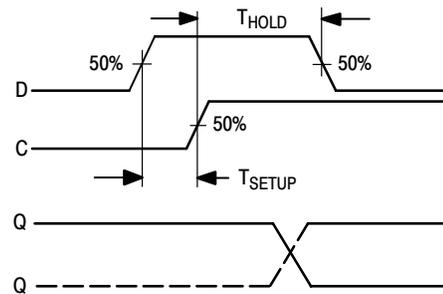

Figure 14. Setup and Hold Waveforms for MECL Logic Devices
Setup and hold times are two AC parameters which can easily be confused unless clearly defined. For MECL logic devices, t_{setup} is the minimum time (50% – 50%) before the positive transition of the clock pulse (C) that information must be present at the Data input (D) to insure proper operation of the device. The t_{hold} is defined similarly as the minimum time after the positive transition of the clock pulse (C) that the information must remain unchanged at the Data input (D) to insure proper operation. Setup and hold waveforms for logic devices are shown in Figure 14.